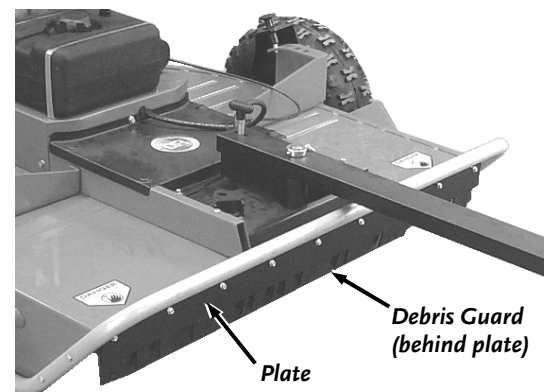

Figure 36
- Inspect the Debris Guard before each use and often during use (**Figure 36**). If you notice damage to the Debris Guard, DO NOT continue to use your machine.